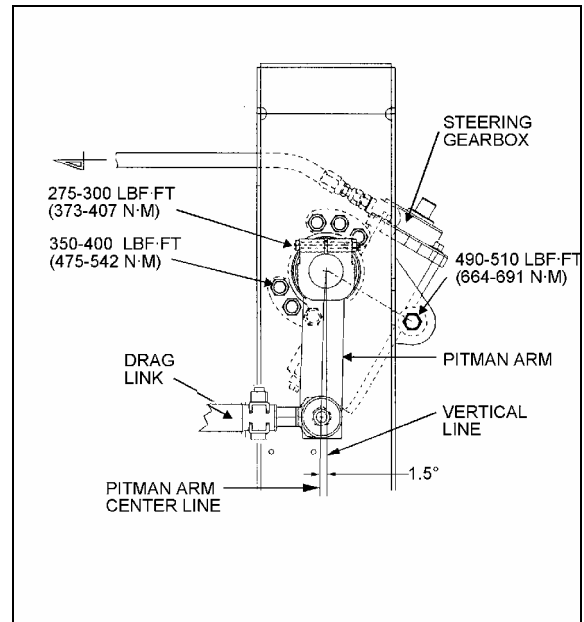

FIGURE 7: PITMAN ARM ALIGNMENT
1. The pitman arm should be adjusted with reference mark aligned or to an angle of 1.5° in relation with the vertical axis (Fig. 7).
2. Install bolt, washer and nut. Tighten nut to 275-300 lbf•ft (373-408 N•m) (Fig. 7).